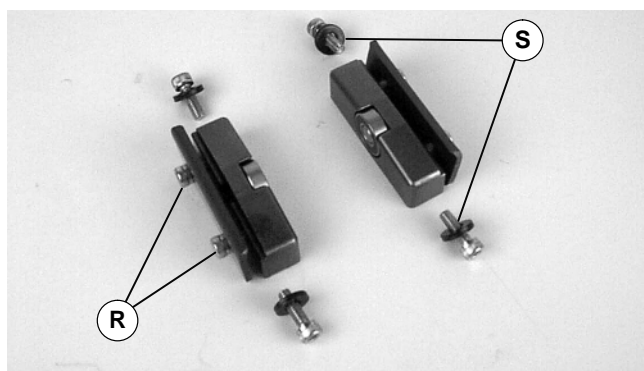

Figure 12
2. Loosen screws (R of Figure 12) and remove screws and washers (S).